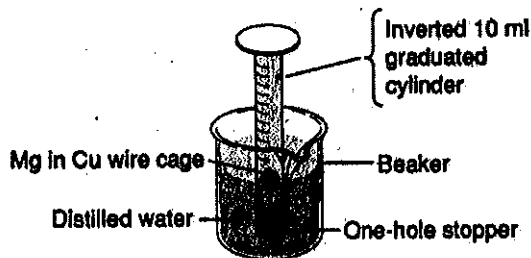

Figure 2
4. Place your finger over the hole in the stopper and invert the graduated cylinder, lowering it into the beaker of water. Remove your finger when the stopper is below the level of water in the beaker. The hydrochloric acid is more dense than pure water, so it will slowly sink toward the stopper and the magnesium; observe and record evidence of reaction. (See Figure 2.)